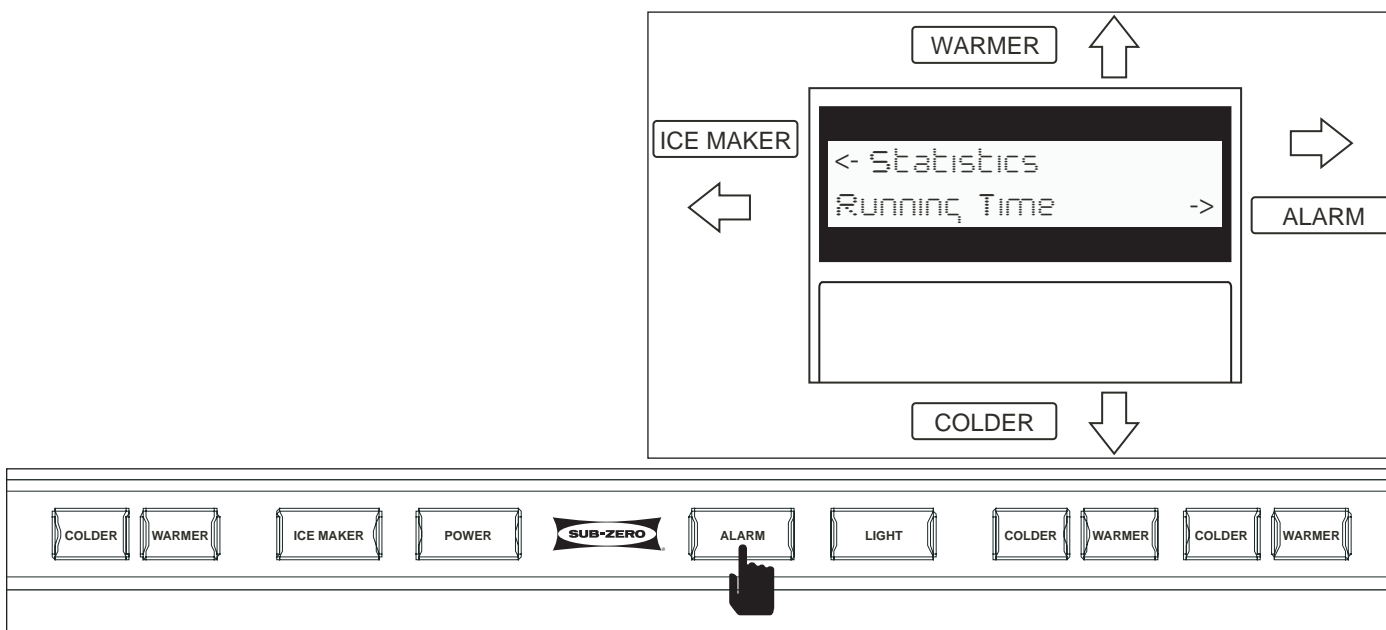

Figure 3-47. Key Strokes and Tech Display - Statistics
2. Press COLDER four (4) times.
3. Press ALARM now (See Figure 3-47), and it is possible to work through the following ten (10) levels: